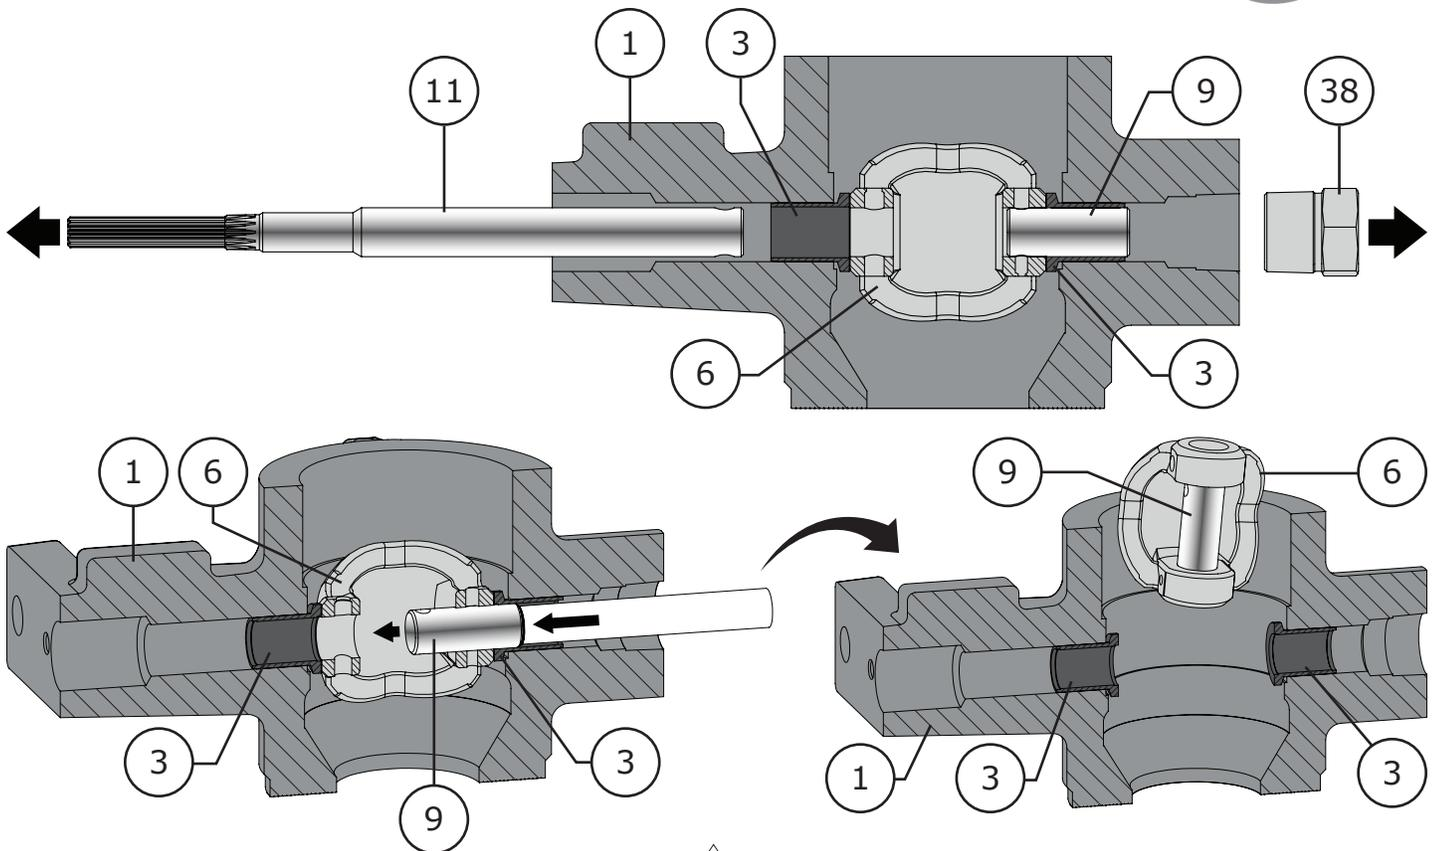

Figure 16 Follower Shaft and Ball Removal (Steps 6 to 10) for 2 Inch Valves
- 6 Remove the drive shaft (Key 11) from the actuator side of the valve. Refer to Figure 16.
- 8** Support the ball (Key 6) and push the follower shaft (Key 9) towards the center of the ball. Refer to Figure 16.
- 4 Remove the nuts (Key 24), flange (Key 5), and spiral wound gasket (Key 4). **NOTE:** The follower shaft bearing (Key 3) may come out along with the flange, or it may remain inside the bore of the valve body. It may be necessary to wiggle the drive shaft (Key 11) in order to remove the bearing or wait until the ball (Key 6) has been removed. Refer to Figure 16. Spiral wound gaskets cannot be reused.